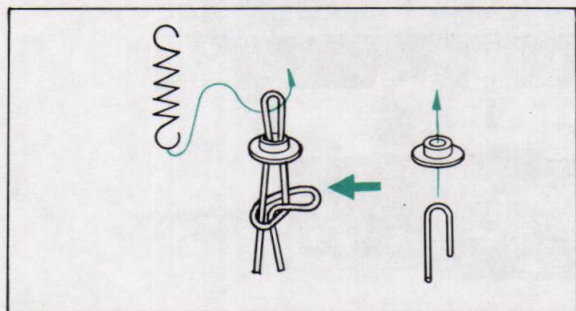
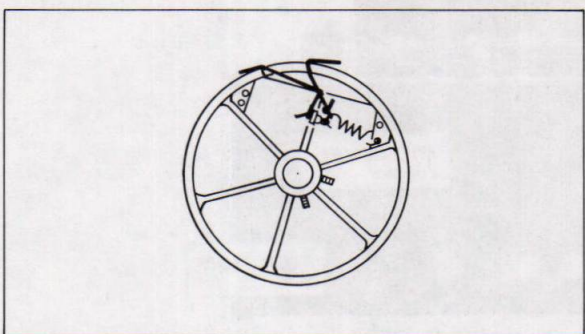

Fig. 2-10. Detail of dial cord finish
Fig. 2-11. End of dial cord stringing
5. Pass the doubled end of the cord through the eyelet (See Fig. 2-10), then hook it to the spring as shown in Fig. 2-11.
6. Tighten the cord, then squeeze the eyelet so that the spring is under tension. Make a knot in the cord end to keep it from slipping out of the eyelet. See Fig. 2-10.